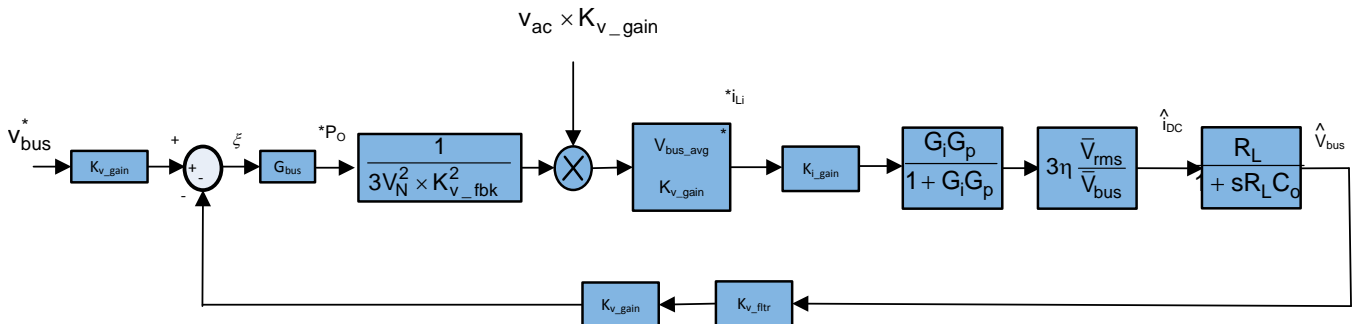

Figure 6. DC Voltage Loop Control Model
The DC voltage regulation loop control model can be drawn, as shown in Figure 6. An additional V_{bus} feedforward is applied to make the control loop independent of the bus voltage, and, thus, the plant model for the bus control can be written as shown in Equation 5.
Using Figure 6, a proportional integrator (PI) compensator is designed for the voltage loop. The bandwidth of this loop is kept low as it is in conflict with the THD under steady state.